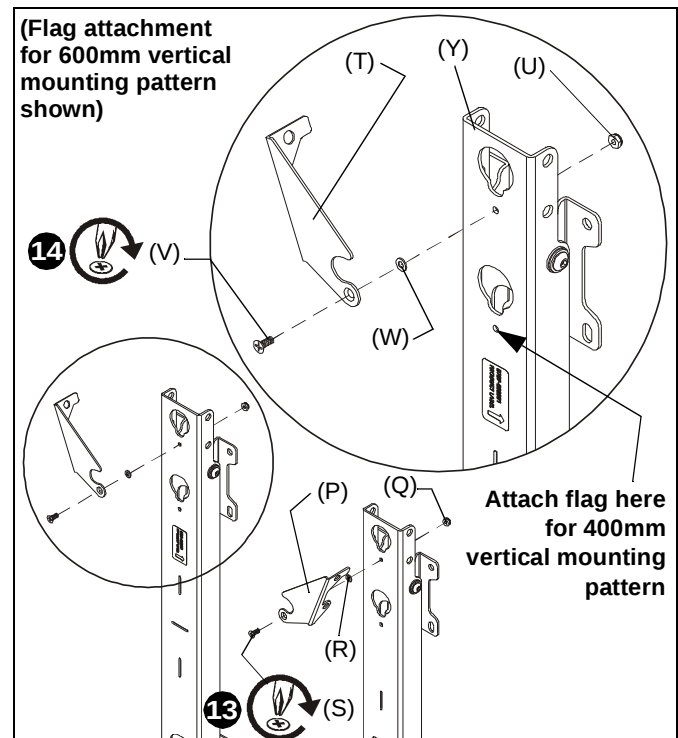

Figure 10
13. Attach right latching flag (P) to upright bracket (Y) using one 10-24 x 1/2" Phillips undercut screw (S), one .375x.194x.032" spacer (R), and one 10-24 locknut (Q). (See Figure 10)
14. Attach left latching flag (T) to upright bracket (Y) using one 10-24 x 1/2" Phillips undercut screw (V), one .375x.194x.032" spacer (W), and one 10-24 locknut (U). (See Figure 10)